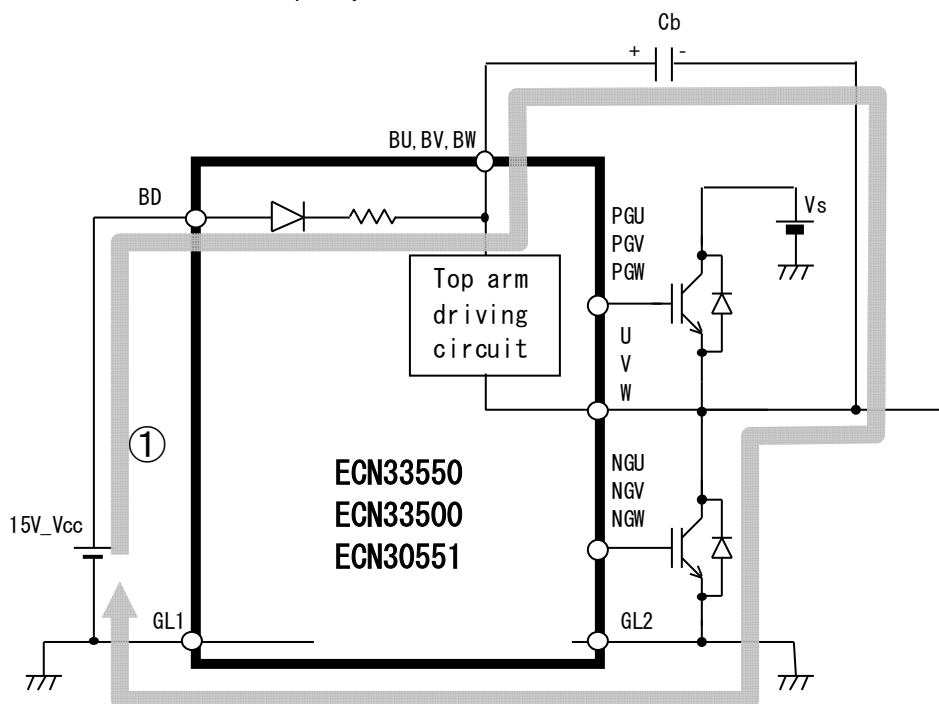

FIGURE 2.3.2.1 Bootstrap Power Supply
Fig. 2.3.2.1 shows the simplified circuit diagram of the bootstrap power supply for the top arm driving circuit. When the output power devices of the bottom arms are turned on, the capacitor  $C_b$  is charged (through passage ①). The output power device on-duty is limited because this charge in the capacitor  $C_b$  is consumed as a power supply for the top arm driving circuit. Bootstrap system is more superior in terms of cost compared to floating power supply as a power supply for the top arm driving circuit. However, it is necessary to charge the capacitor at an initial state in order to drive the top arm driving circuit.